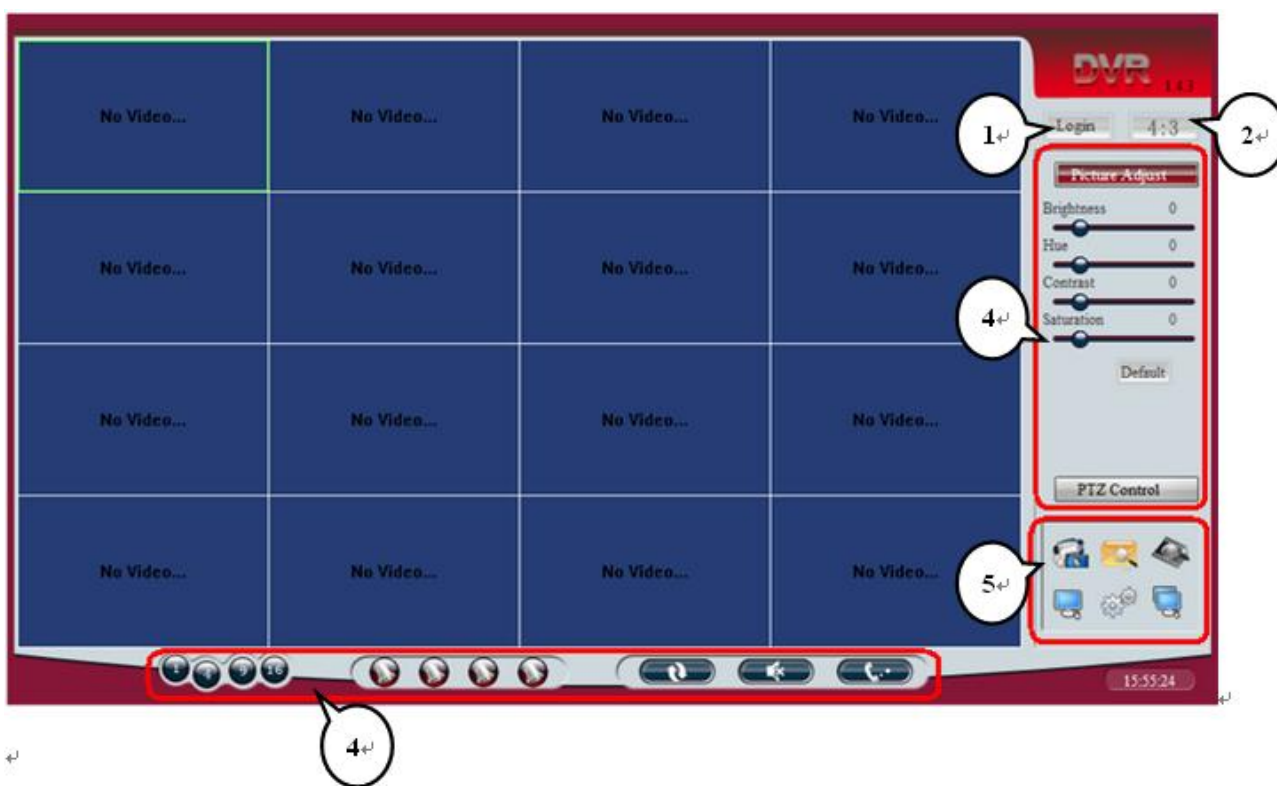

Fig. 69
The main interface shown as Fig.69:
1. Click login button at higher right corner on the main interface(Fig69①marks), or right click the video display area anywhere, or click the menu and setup, the system will pop-up the login interface.
Click the image view scale button ,on right-top of the main interface(fig.69,mark②),can switch the scale at 4:3 and 16:9.
In the main interface shown as Fig69 ③ is the video display area.
5. Cruise control: in fig69 “”icon shows the area of cruise control, cruise including auto cruise and route cruise.
In the main interface shown as Fig 69④, is the shortcut operation area.
The mark④ at right on the main interface, is image adjust area. The detail operation please see the above video area operation fig.69 image adjust instruction.